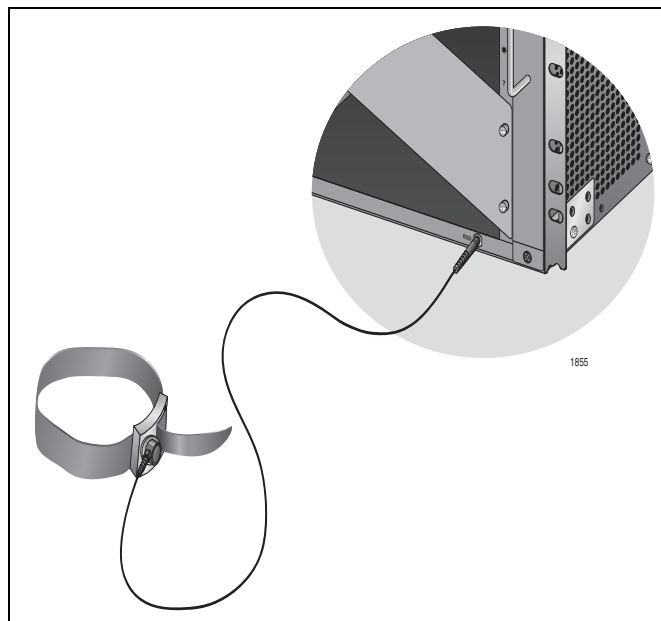

Figure 32. ESD Socket
3. Connect the clip from the ESD-preventative device to the ESD socket on the lower right side of the AT-SBx3112 Chassis front panel or an unpainted surface of the frame or rack as displayed in Figure 32. This ensures that unwanted ESD voltages safely flow to ground.